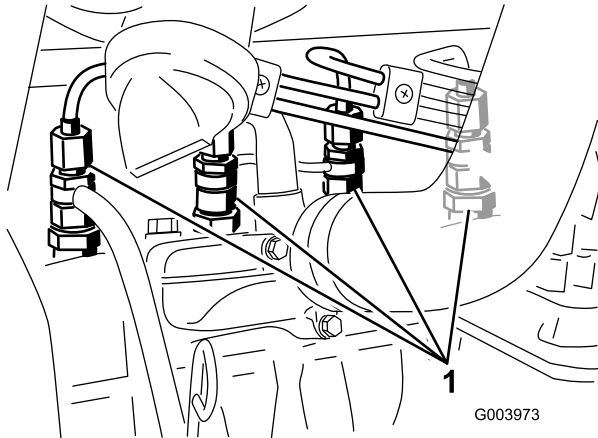

Figure 38
1. Loosen the pipe connection to the No. 1 nozzle and holder assembly (Figure 38).